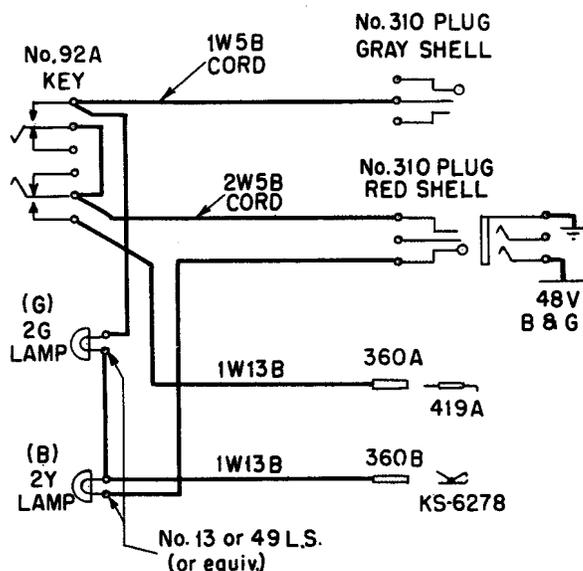

Fig. 1
2.05 One Special Patching Cord, to be made up locally (see Fig. 1).
2.06 One Special Patching Cord to be made up locally (see Fig. 1).
3.01 Arrange the special patching cord as shown in Fig. 1.